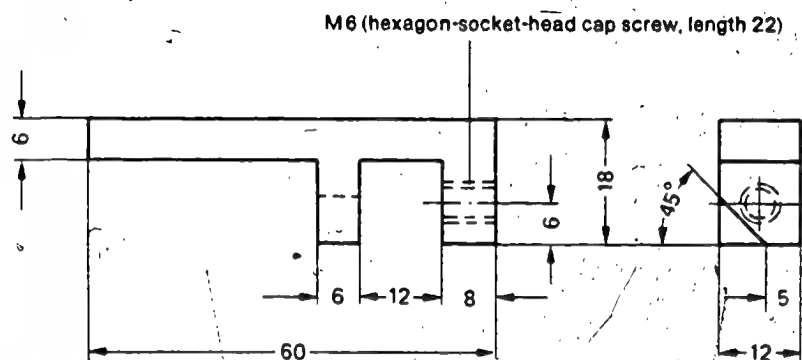

Fig. 4 Clamping piece (user-fabricated)
1. Measure the control-rod travel using the control-rod setting device 1688130 095 (EFEP 565), magnet and 30 mm (1 1/10) dial indicator. Fabricate clamping piece as shown in sketch and fasten to the end of the control rod (Fig. 4). Assemble control-rod setting device and apply magnet to clamping piece.